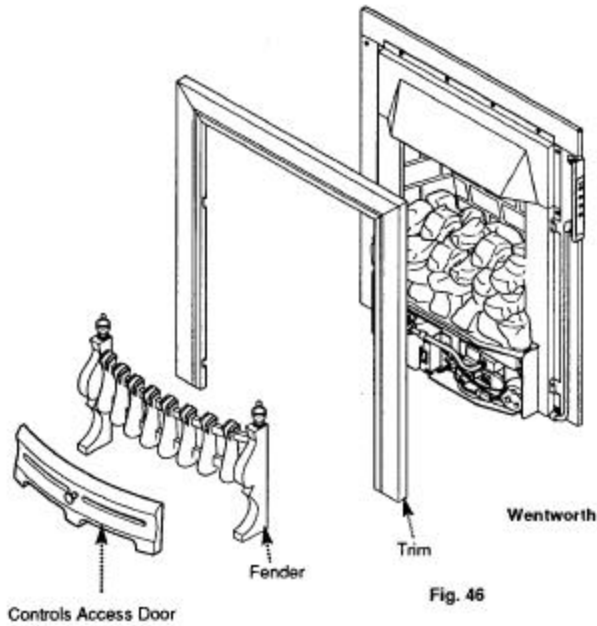

Fig. 46
1. Remove the controls access door and fender assembly (Fig 46 or 47).
11.2 Wentworth Models (Fig. 46)